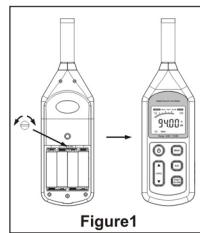

Figure 1
3. Turn on the Calibrator and adjust the Potentiometer inside the battery compartment of the unit (shown in the Figure 1), until the LCD display the desired Level 94.0dB.